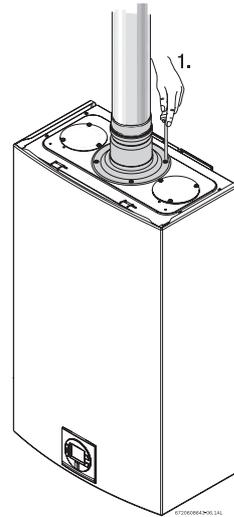

Fig. 23 Exhaust connection
All vent pipes must be glued, except for the exhaust accessory (see Fig. 23, page 16) which is screwed into place on the top of the appliance. Slide the vent pipe into the exhaust accessory. The exhaust pipe must be properly supported and must be pitched minimum of a 1/4 inch per foot back to the appliance. This allows the condensate to drain.
- ▶ Attach the flue gas exhaust accessory to the top of the unit Fig. 23 (position 1) using the 4 screws and gasket provided, and fully insert vent pipe into the accessory. Take extra care that the blue gasket is positioned properly.